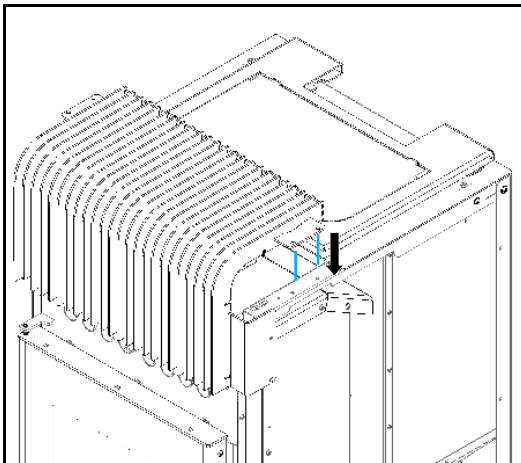

Figure 99 – Fitting the front grille
b) Fit the front grille, matching the holes in the grille to the holes in the appliance (Figure 99).